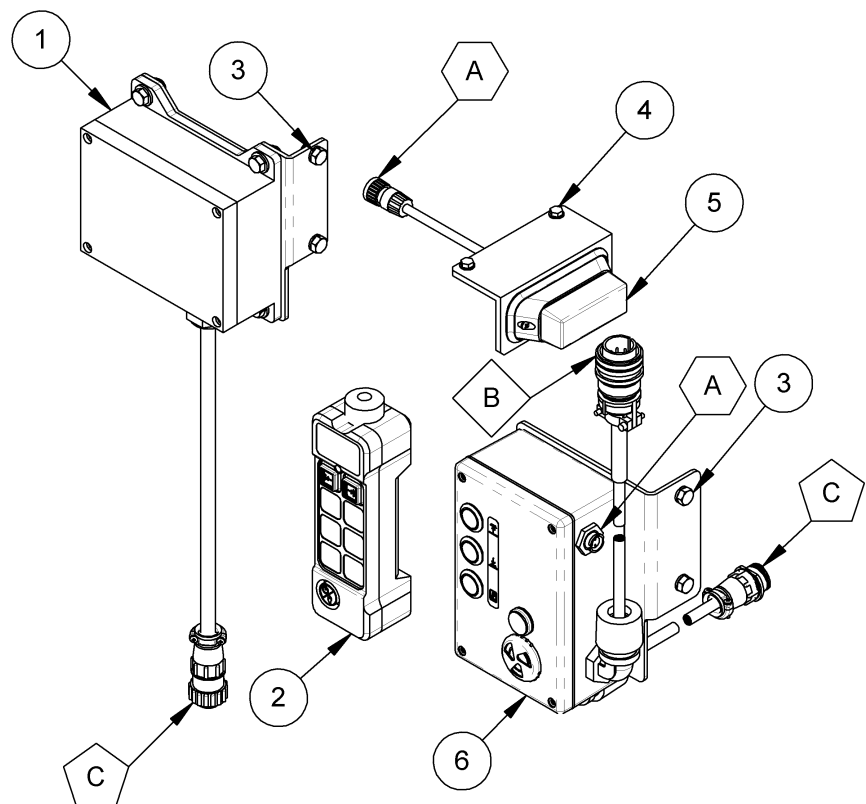

Figure 2
- 4) Connect the electrical connector between the strobe light and control enclosure assembly, as indicated by Tags A in Figure 2.
- 5) Connect the electrical connector between the radio receiver and control enclosure assembly, as indicated by Tags C in Figure 2.